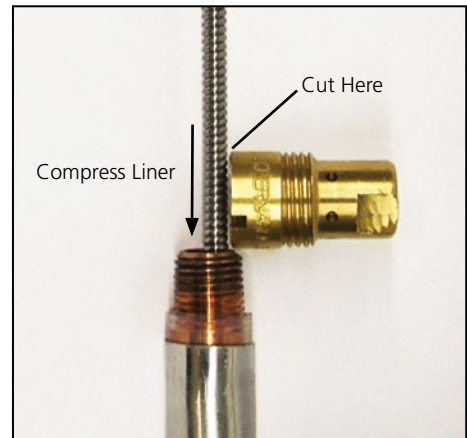

Fig 8 Replacing the gun cable liner
At the gun end, compress the liner within the gun cable, then cut it **approx 20 mm past the end of the body tube/neck** (5) (the diameter of the gas diffuser is 20 mm and can be used as a guide) - see Figure 8.